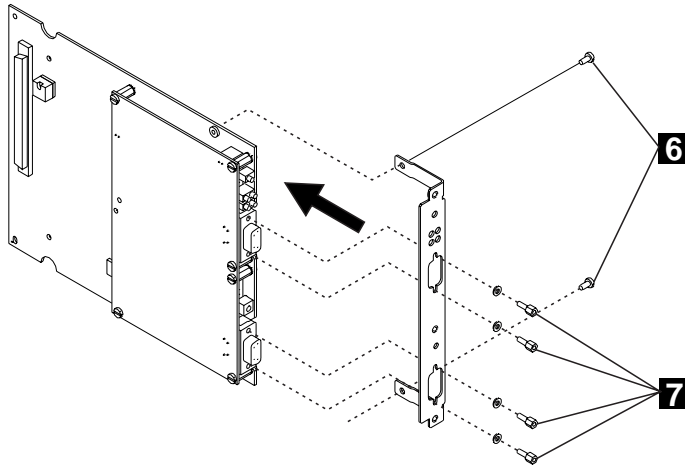

Figure 10. Attaching the Faceplate Bracket
- 6 Install the VPD PROM chip (5) on the motherboard, making sure that the notch is aligned with the front of the module.
- **7** Attach the faceplate bracket to the motherboard using the two screws (**6** in Figure 10 on page 23) from the old dummy bracket.